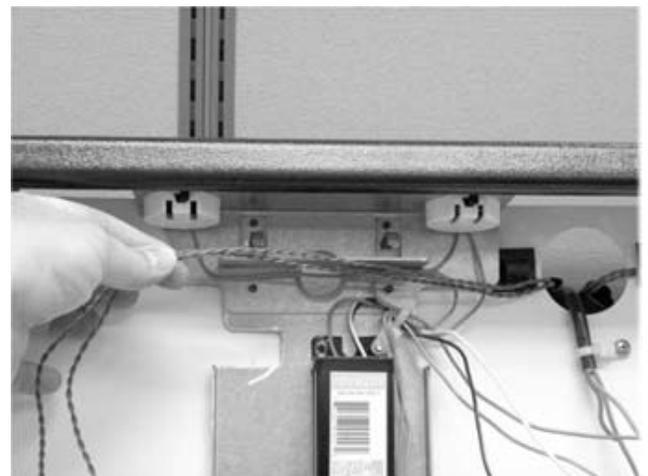

Figure 44.
- I. Press top of bracket back into place, as shown in Figure 44.
- Both tabs fit into slots provide, see Figure 44.